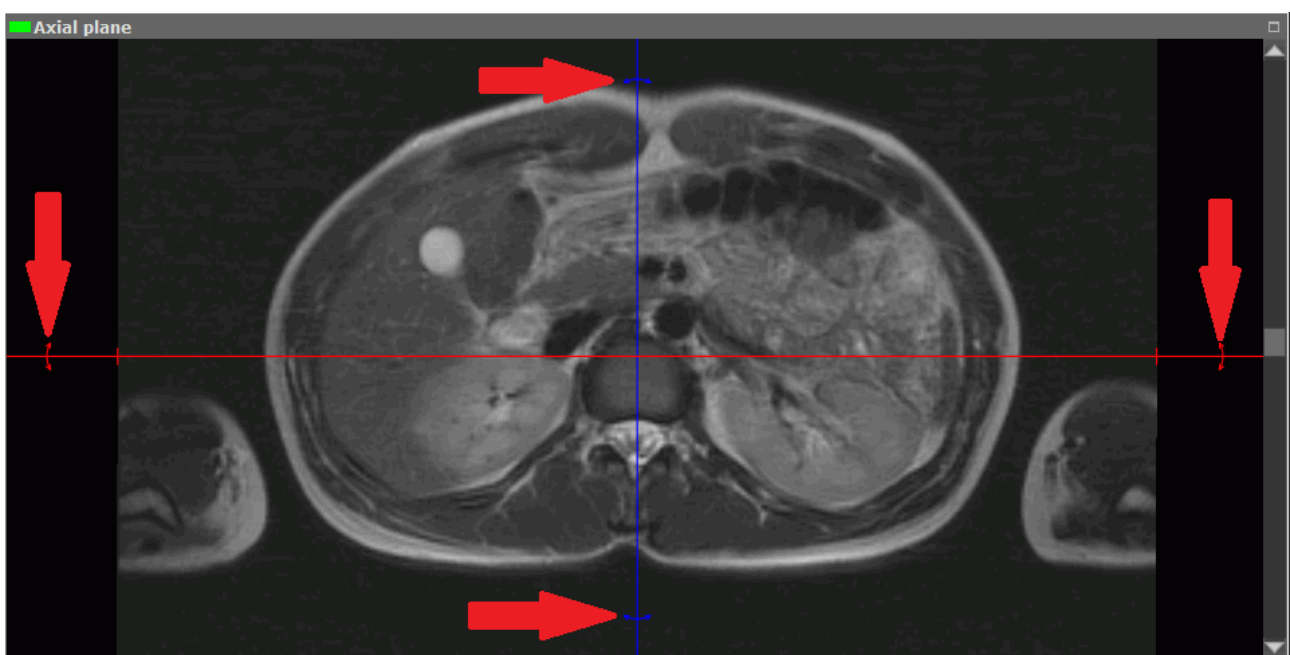

Figure 5.4: Rotate an orthogonal plane
1. Locate the cursor on the radial bidirectional arrow on the plane line (see red arrows in Fig. 5.4). The bidirectional arrow will be highlighted.